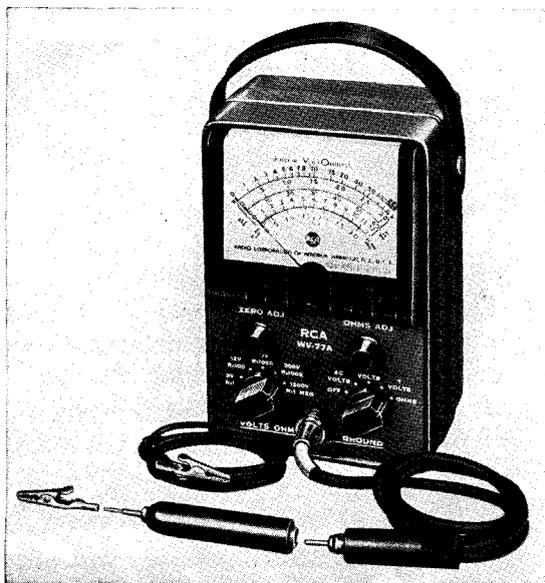

FIG. 4-16. RCA Junior Volt-ohm-myst.
**Electronic volt-ohmmeters.** Reference was made previously to the vacuum-tube voltmeter with its high-input impedance. These instruments have in recent years become relatively inexpensive. Their popularity has also increased, since the function of ohmmeter has been added. They are referred to as “electronic volt-ohmmeters.” Figure 4-16 shows such an electronic meter, the RCA Junior Voltohmmyst.
the scale, as shown in the top scale of Fig. 4-16. This is opposite to that of a moving-coil ohmmeter.